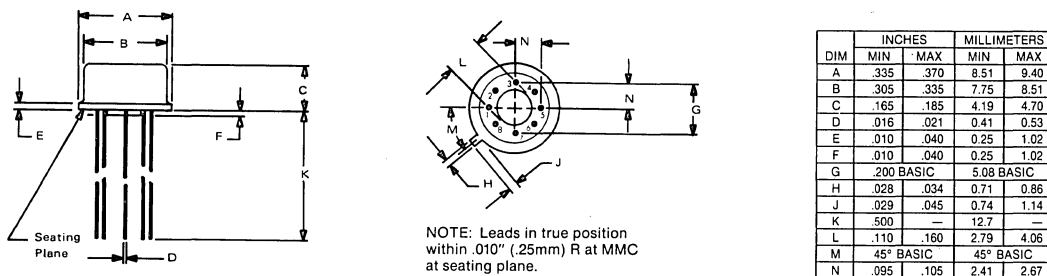

FIGURE 1. Case Outline (TO-99) Package Configuration.
1.2.3 Case outline. The case outline is A-1 (8-lead, TO-99) as defined in MIL-M-38510, Appendix C and is shown in Figure 1. The case is metal and is conductive.
3.2.6 Physical dimensions. The physical dimensions are in accordance with paragraph 1.2.3 herein and are shown in Figure 1.